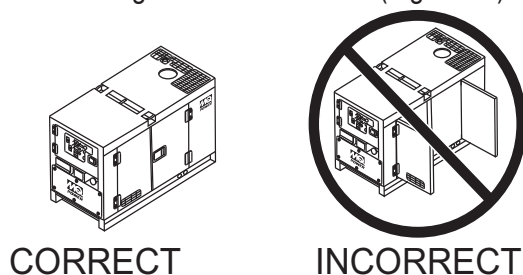

Figure 39. Engine Enclosure Doors
- Close all engine enclosure doors (Figure 39).